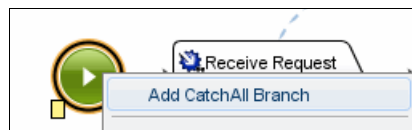

Figure 10-107 Add global catch
1. Right-click the starting point of the orchestration, and select **Add Catch Branch**, as shown in Figure 10-107.